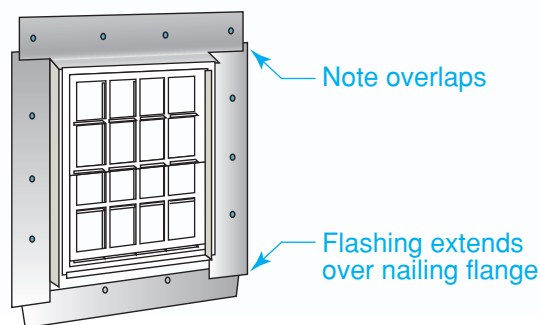

Figure 23-23 Window Flashing
Step 3 Apply housewrap or flexible self-adhesive flashing around windows, doors, exterior electrical boxes, and other openings. Overlap it as shown in **Figure 23-23**. The flashing should be wide enough to extend past the nailing flange of any accessory.